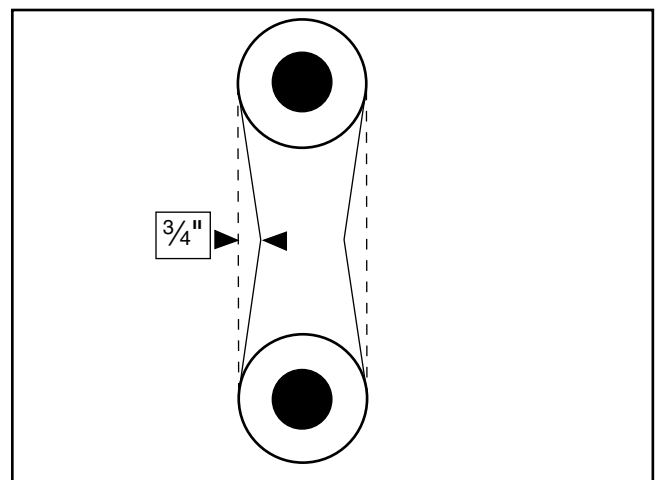

Figure 42. Proper amount of V-belt deflection.
3. Note the amount of deflection. Deflection should be approximately $\frac{3}{4}$ " as shown in Figure 42.